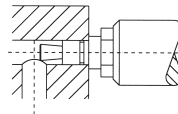

Fig. 2
2. After inserting the plug into the hole (making sure the tool is flush to the work surface) activate the tool to expand the plug. The mandrel will break apart when the proper tension has been reached (Fig. 2 & 3)